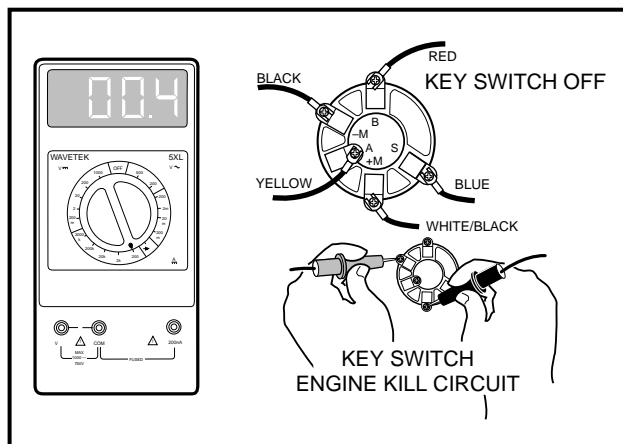

Figure 11-43 Test Key Switch – Engine Kill Circuit
4. Place the red (+) probe on the (+M) terminal and the black (–) probe on the (–M) terminal. With the key switch OFF, the reading should be continuity. With the key switch turned ON, the reading should be **NO** continuity. If either reading is incorrect, replace the key switch (**Figure 11-43, Page 11-36**).